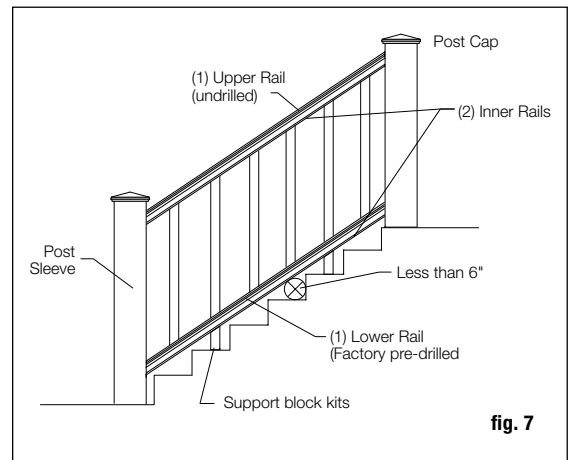

fig. 7
Step 6 Assemble the lower inner rail and support block assembly. Position the bottom rail between the posts. Check building code requirements for maximum spacing on a staircase, typically less than 6". A 6" ball cannot pass through the triangle formed by the bottom rail, tread and riser (fig. 7). A support block is needed every 2' on-center. Trim support blocks to desired height and pre-drill 1/8" holes in the proper location. Holes must be centered on the inner rail for support blocks to fit properly. Using the support block connectors, fasten support blocks to the underside of the inner rail.